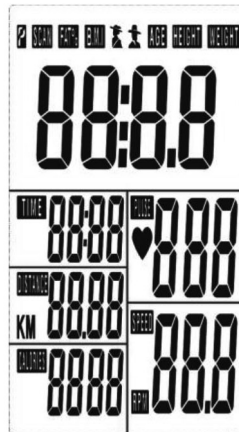

Fig. 1
4. Install the calendar settings (year, month, day and clock) and confirm each value with the MODE button (Fig. 1).